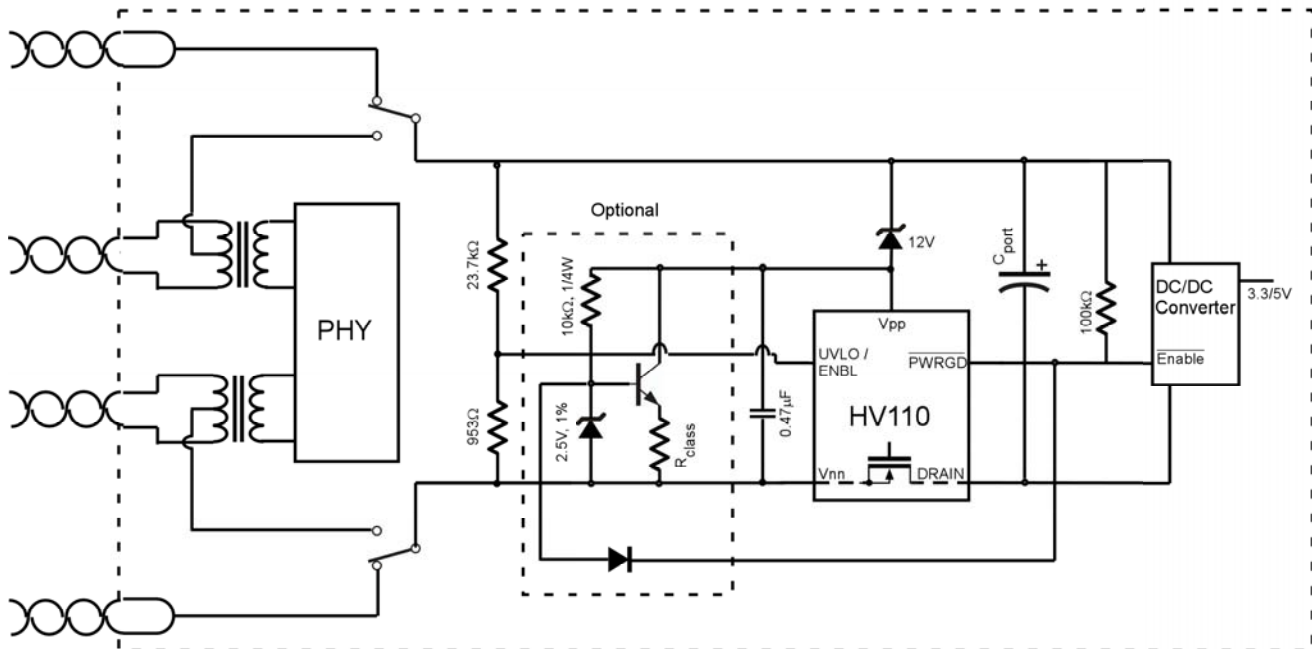

Figure 9. Classification Circuit with HV110
Note that Class 0 default will work for all devices & Classification is only needed in the rare instance when a multi-port switch or router wants to rate the system supply lower than the combined Class 0 port output; a situation which will reduce it's potential classification base. In fact most of the PD devices, like Wireless Access Points, in the market today are Class 0 devices and hence do not require any classification methods. HV110 therefore does not force the use of resistors and wasted silicon area to implement a Classification current source. HV110, however, can be made to be compatible with classification by utilizing low cost circuitry as shown in Figure 9.
- Classification can be easily implemented, as shown in Figure 9.
Figure 9 above shows the schematic for a typical classification scheme used with HV110. The PSE identifies the Class of the PD, by measuring the current flowing into R_{class} during the Classification Period.